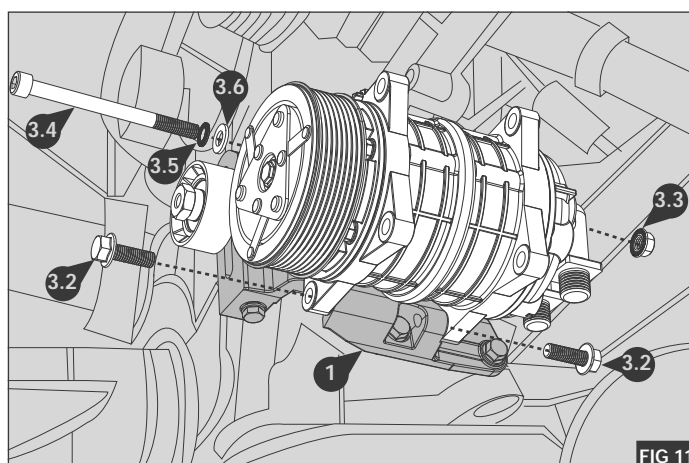

FIG 11
3. Using a suitable tool rotate the automatic belt tensioner to release the tension and remove the original manufacturers drive belt (A) taking care to check the direction of rotation and noting the original routing, if different from the diagram shown in Fig.11 report your findings to your Kit/System supplier before proceeding - Fig 1
2. Fit the compressor to the previously fitted mount bracket assembly (1) using bolt (3.4) with Schnorr safety washer (3.5) and flat washer (3.6) and Dulok nut (3.3) then secure with bolts (3.2) - Fig 11